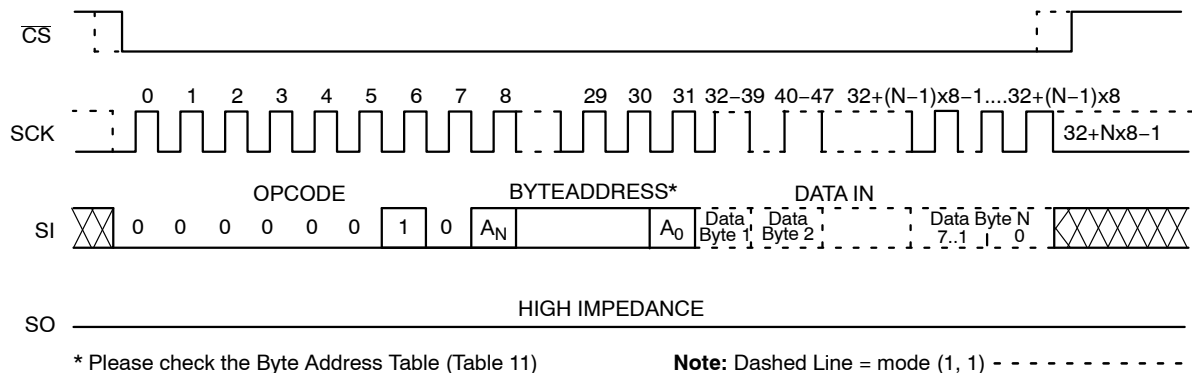

Figure 6. Page WRITE Timing
After sending the first data byte to the CAT25AM02, the host may continue sending data, up to a total of 256 bytes, according to timing shown in Figure 6. After each data byte, the lower order address bits are automatically incremented, while the higher order address bits (page address) remain unchanged. If during this process the end of page is exceeded, then loading will “roll over” to the first byte in the page, thus possibly overwriting previously loaded data.
The additional 256-byte Identification Page (IP) can be written with user data using the same Write commands sequence as used for Page Write to the main memory array (Figure 6). **The IPL bit from the Status Register must be set (IPL = 1) using the WRSR instruction, before attempting to write to the IP. Prior to any write to the Identification Page, the Write Enable Latch must be set (WEL=1) by sending the WREN instruction.**